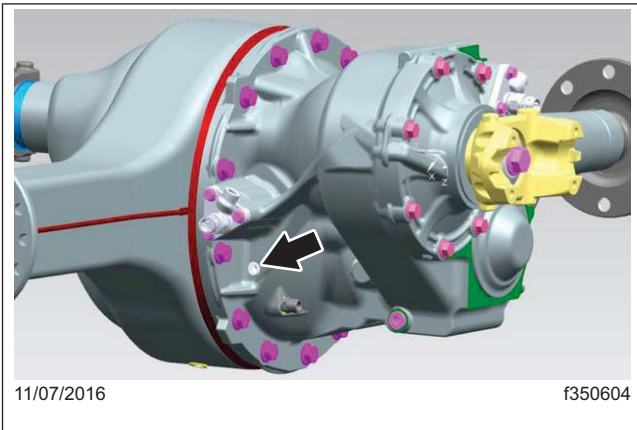
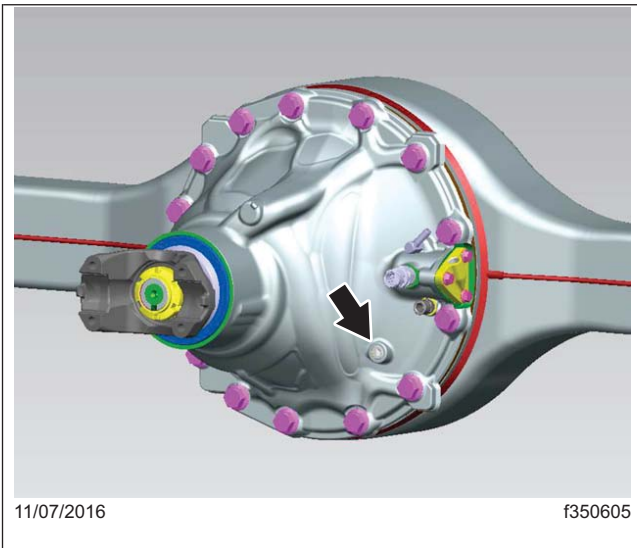

Fig. 7, Detroit™ New Final Drive Forward Axle, Oil Fill Location
Fig. 8, Detroit™ New Final Drive Rear Axle, Oil Fill Location
- 2. Clean the fill plug and the area around it. In the carrier housing, remove the plug from the oil fill hole. See Fig. 7 for the forward axle, and Fig. 8 for the rear axle .